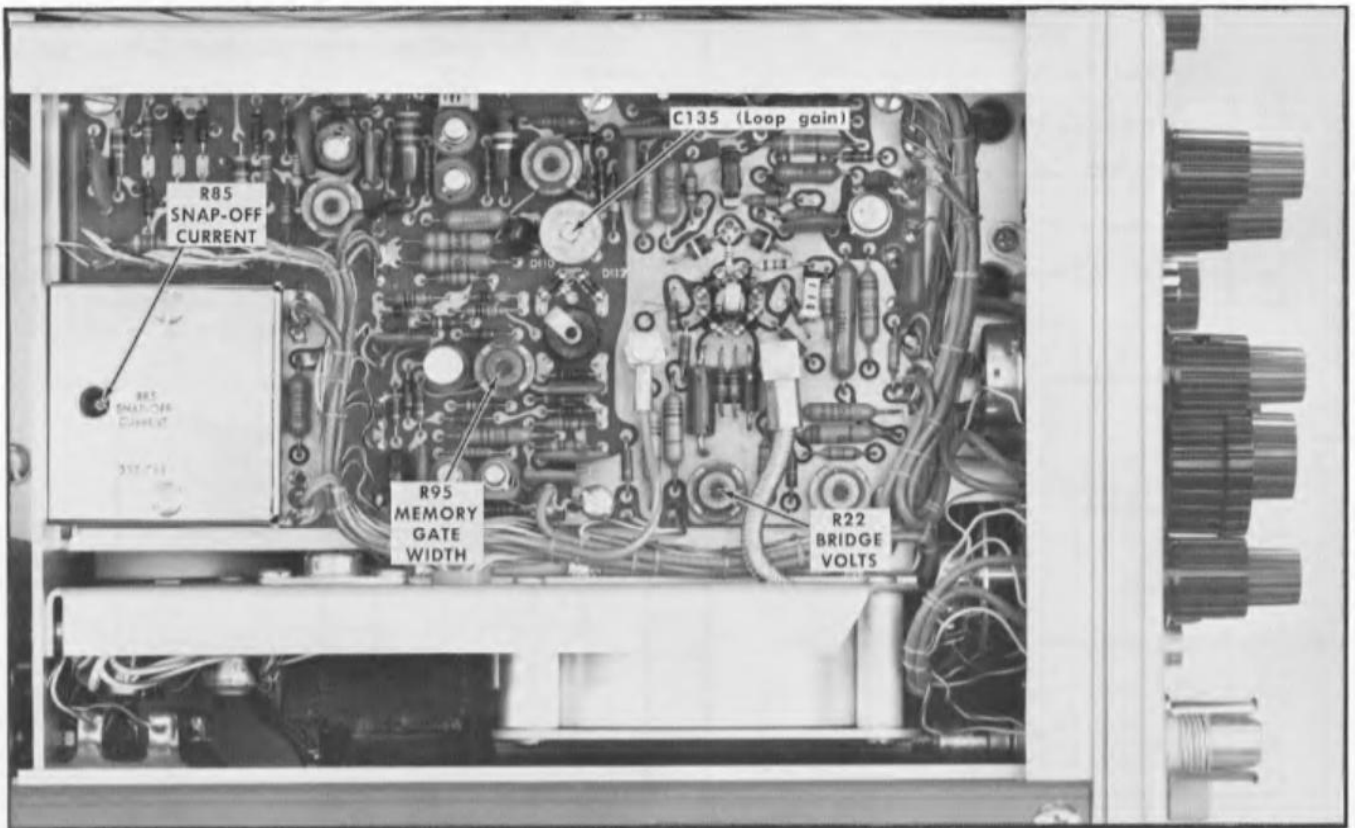

Fig. 5-33. Adjustments on left side of Type 151 for loop gain, bridge standoff and risetime.
1. Check the adjustment of R95 (MEMORY GATE WIDTH) by turning the control slightly each way from its original position and observing the change in the waveform. See Fig. 5-33 for the location of R95.